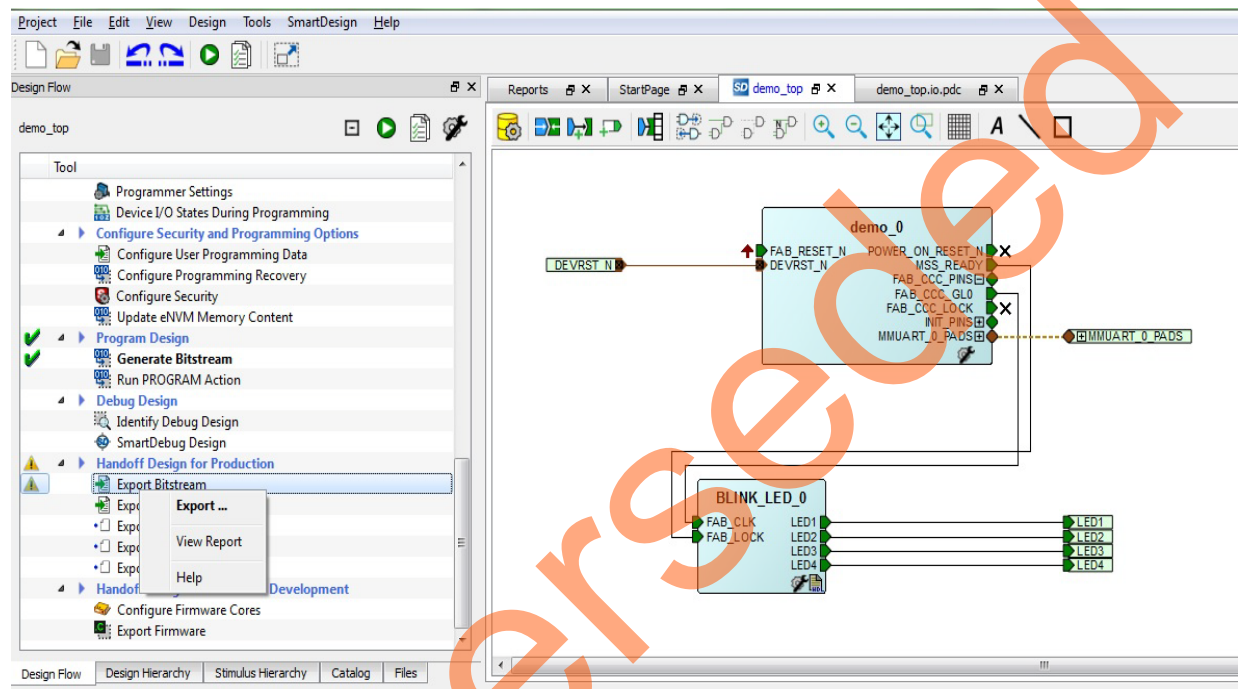
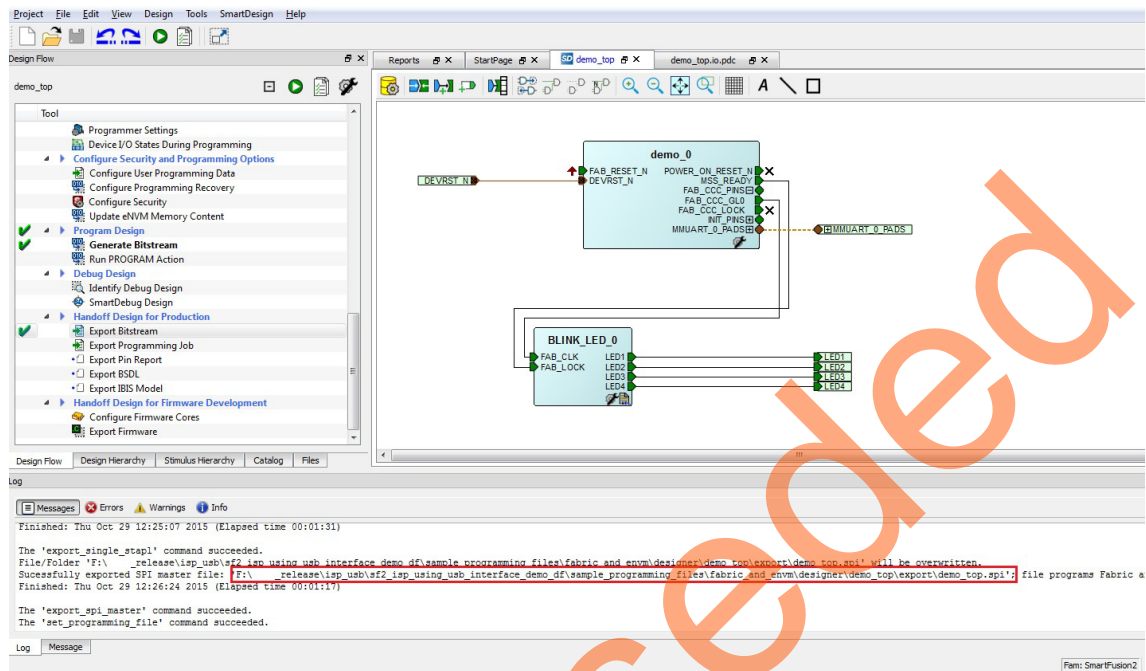

Figure 18 • Configuring Export Bitstream
Figure 20 • .SPI File Location
- Double-click **Export Bitstream** under **Handoff Design for Production** in the **Design Flow** tab to generate the .spi file (Figure 18 on page 27). Figure 20 shows the .spi file location in **Messages** tab.